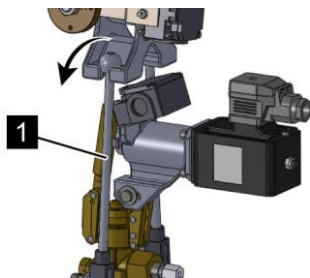

Fig. 146: Unhooking
5. ➔ Unhook the holding rods of the pilot cylinder (Fig. 146/1) on the weighing device (Fig. 146/ arrow).